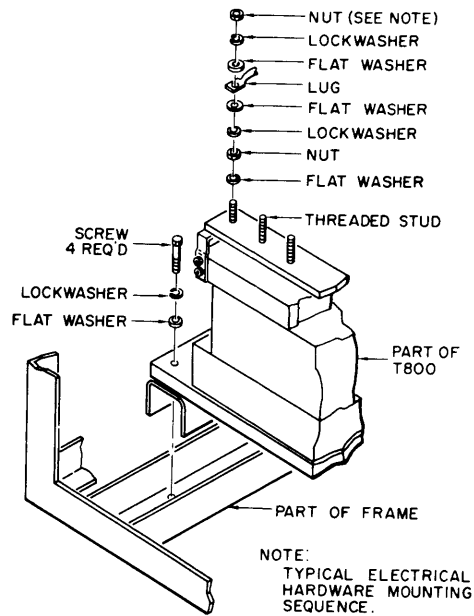

Figure 2-12. Transformer T800, Installation Diagram.
(1) BALANCED OUTPUT
(2) UNBALANCED OUTPUT
- b. Position power transformer T800, figure 2-12, into the bottom front of second frame.